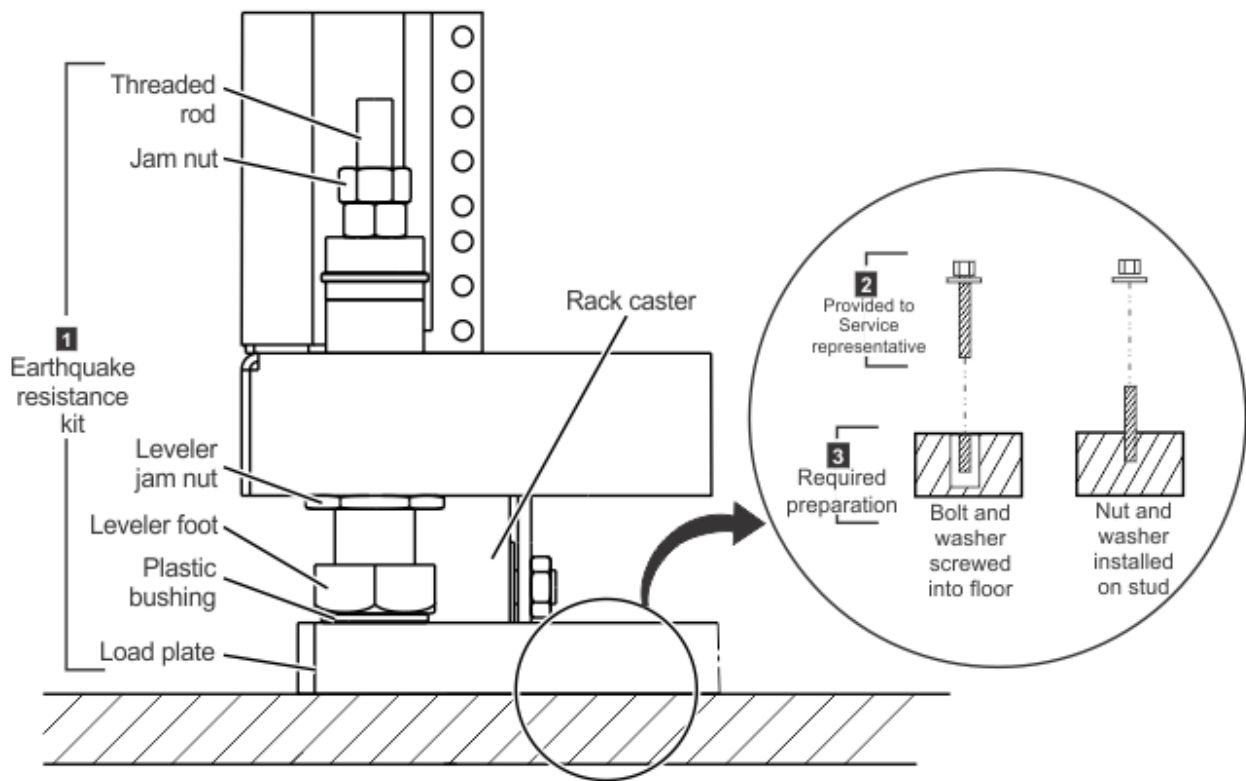

Figure 20. Earthquake resistance kit installed on a nonraised floor.
Figure 20 on page 127 provides an illustration of the earthquake resistance kit (1) after the IBM service representative installs it on the nonraised floor.
Before the IBM service representative installs the kit, you must prepare the area that is shown as (2) in Figure 20 on page 127. This figure shows two of the most common fasteners that you can use.
The following examples provide descriptions of nonraised floor fastener sets. Figure 20 on page 127 illustrates the fastener sets.
3. When the IBM service representative arrives to install the earthquake resistance kit, provide the other fastener parts (2) in Figure 20 on page 127 so that the representative can use these parts secure the load plates onto the floor.